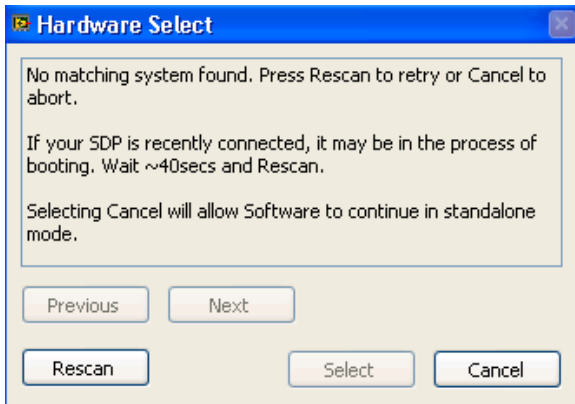

Figure 17. No Hardware Connected Pop-Up Window Error
2. The software automatically seeks to find the hardware connected; therefore, when no hardware is connected, it displays a connectivity error (see Figure 17). To continue without hardware in standalone mode, click **Cancel**.